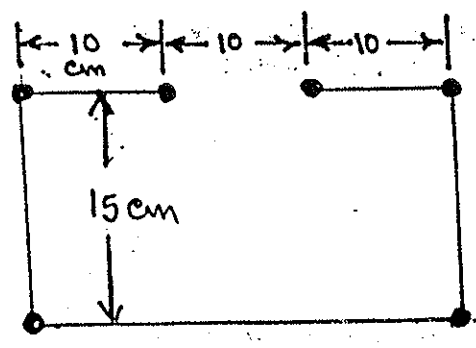

Fig. 2
- (b) Find shear flow of the open section shown in fig. 2. Area of each stringer = 6 cm^2 . The loads are $S_x = 10 \text{ kN}$ and $S_y = 50 \text{ kN}$ acting through the shear center.